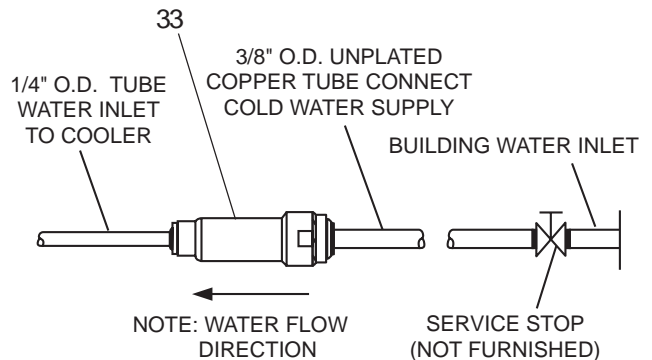

Figure 17 – Water Supply Connections
5. **Make water** supply connections from service stop to the 3/8" O.D. unplated copper tube coming out of the strainer. Turn on water supply and check for leaks (See Figure 17). Newly installed water supply line should be insulated after leak check is completed.
- Make water** supply connections from service stop to the 3/8" O.D. unplated copper tube coming out of the strainer. Turn on water supply and check for leaks (See Figure 17). Newly installed water supply line should be insulated after leak check is completed.